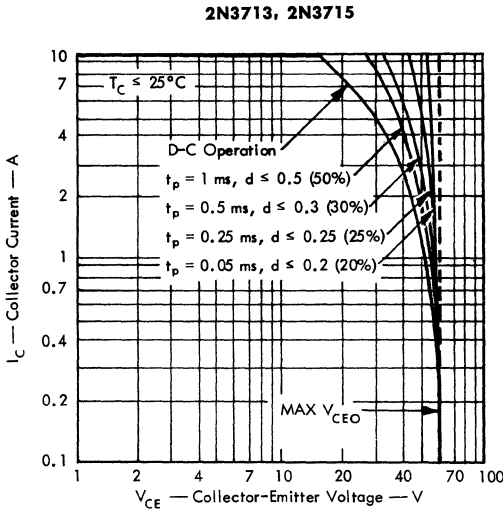

FIGURE 8
*Safe Operating Region at (or below) 25°C Case Temperature	See Figures 8 and 9